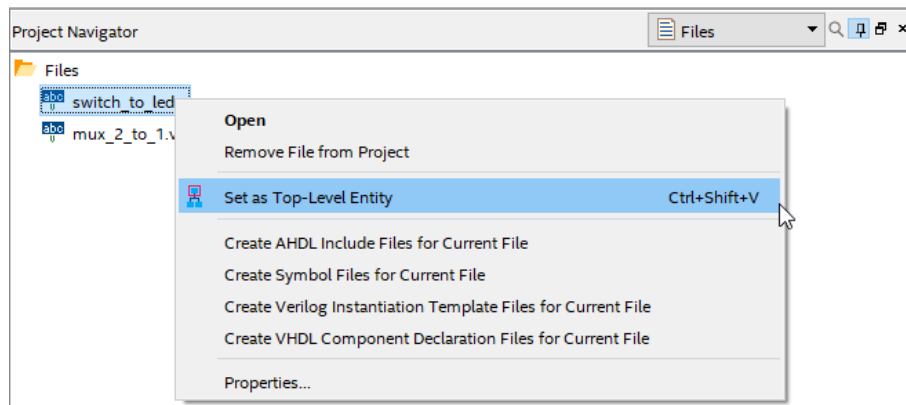

Figure 22: Changing Top Level Entity
- ❑ The RTL Viewer can be found under task on the left-hand side by looking into the **Analysis & Synthesis** dropdown and then the **Netlist Viewers** dropdown, as shown in Figure 22. Once opened, you should see a 2-to-1 mux similar to what is seen in Figure 23.